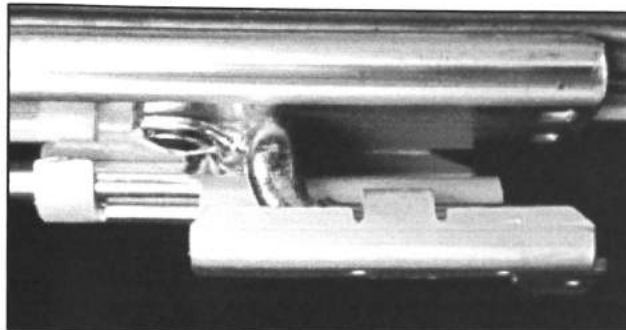

FIGURE 15
- e) Tabs should be bent over frame as pictured. See Figure 15.